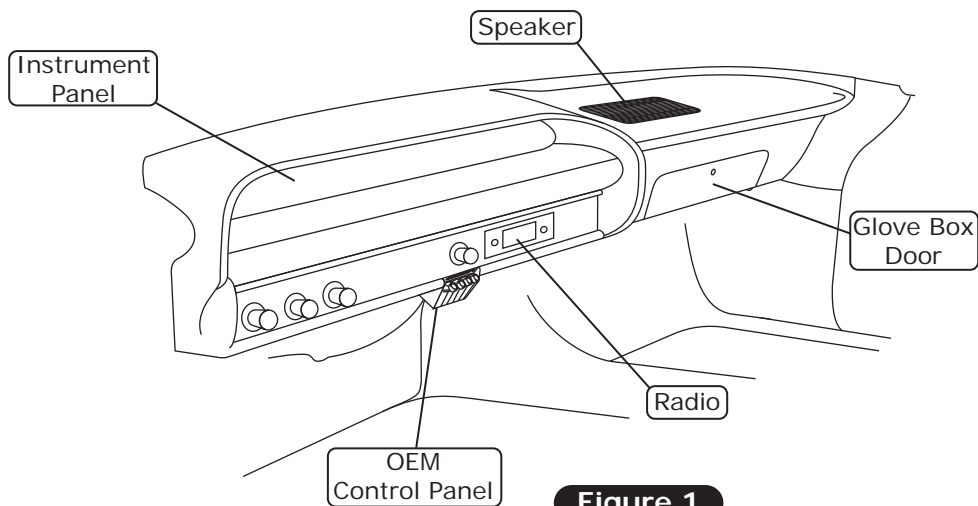

Figure 1
5. Remove the radio and speaker (retain) (See Figure 1, below).